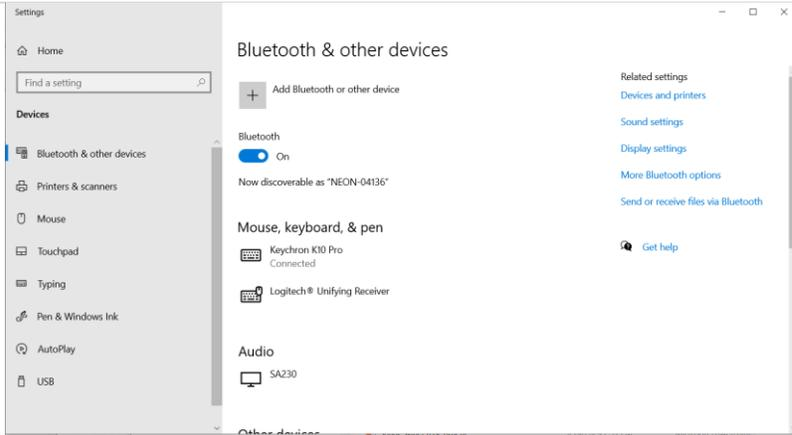

Figure 48. Bluetooth settings
**STEP 2** | Using a laptop, open the **Bluetooth settings** window and select **Bluetooth & other devices** to add the Multisonde (**Figure 48**)